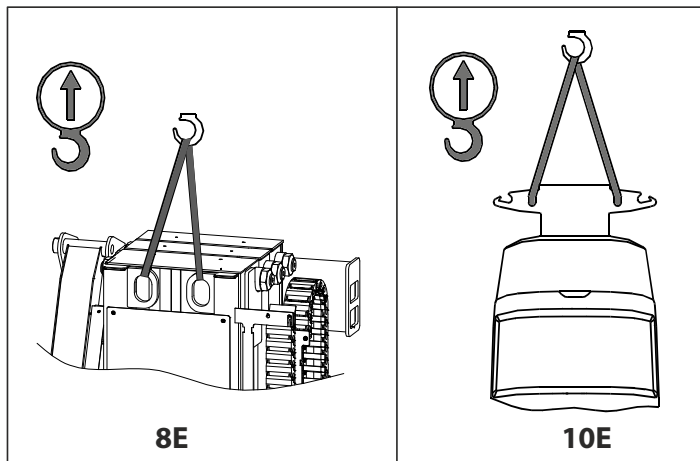

Figure 3-20. Lifting the Machine
- Attach lifting straps/chains at BOTH lifting lugs as shown in Figure 3-20.